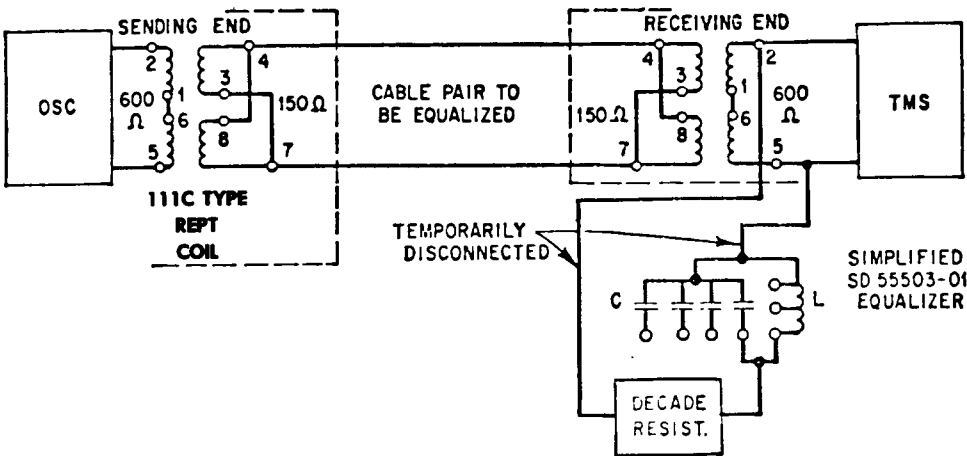

Fig. 1—Test Setup for Equalizing a Single Section with SD-55503-01 Equalizer
2.01 The SD-55503-01 Equalizer is connected to the circuit as shown in Fig. 1. A decade resistor should be used in place of the resistors normally provided with the equalizer. This will speed up the testing procedure. Chart I outlines the procedure for equalizing a single section 15-kHz local program circuit.
4	Connect the equalizer as shown in Fig. 1.